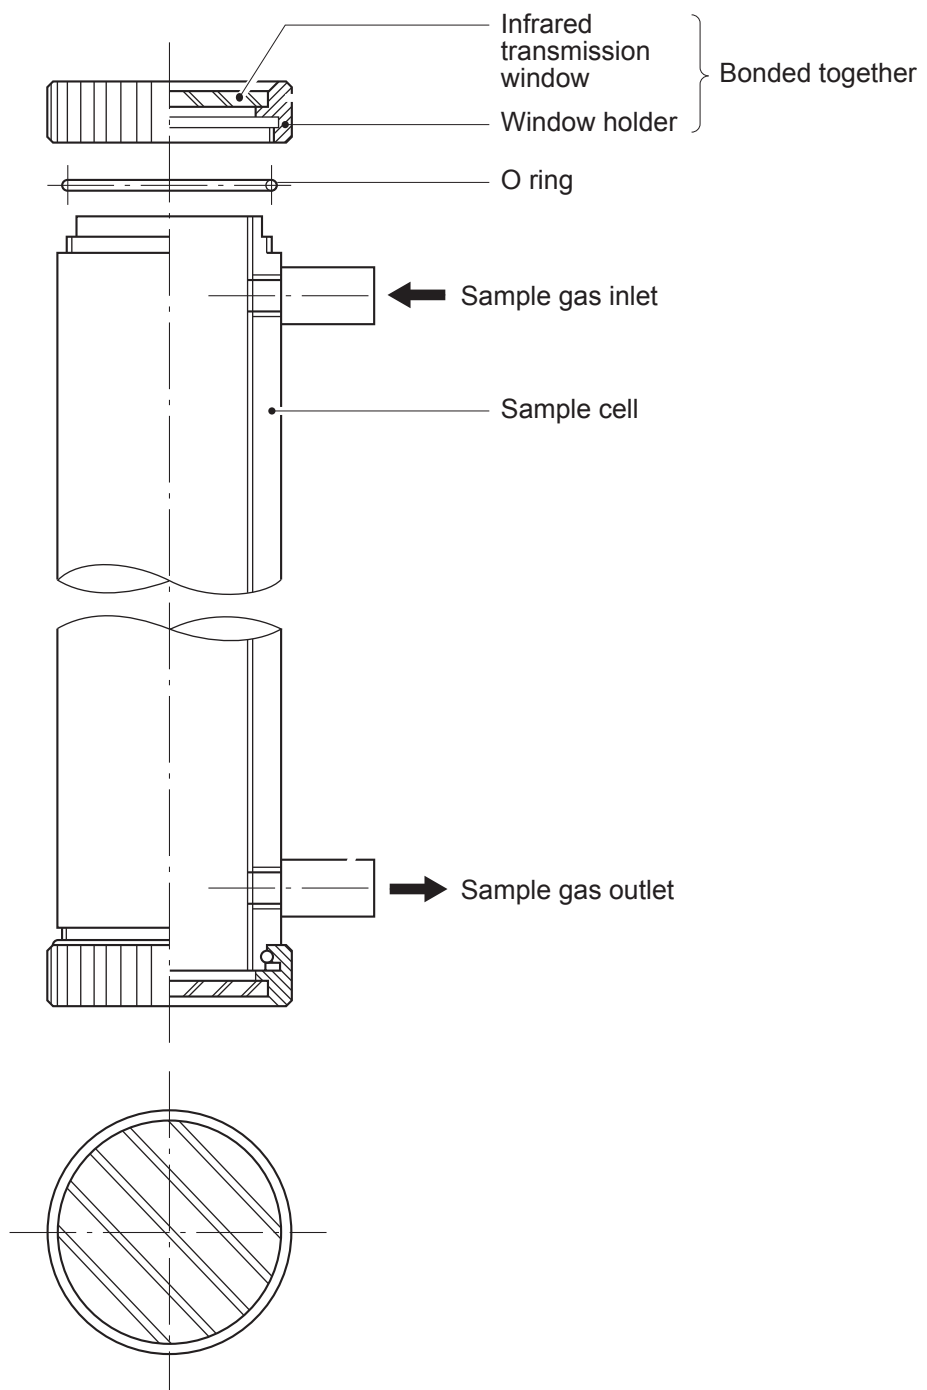

Fig. 7-1 Structure of sample cell (pipe cell)
- (1) Turn off the power switch, stop the sample gas, and allow the zero gas to flow for several minutes to purge the cell interior. Loosen the setscrew (3 pieces) from the top cover and remove it.
- (2) Remove the internal gas inlet tube.
- (3) Loosen both right and left screws for cell holding plate.
- (4) Turn to the left the sample cell window and remove it from the sample cell (see Fig. 7-1).
- (5) For cleaning the window and cell inside surface, first eliminate coarse dust by soft brush or the like and then wipe them by soft rag.